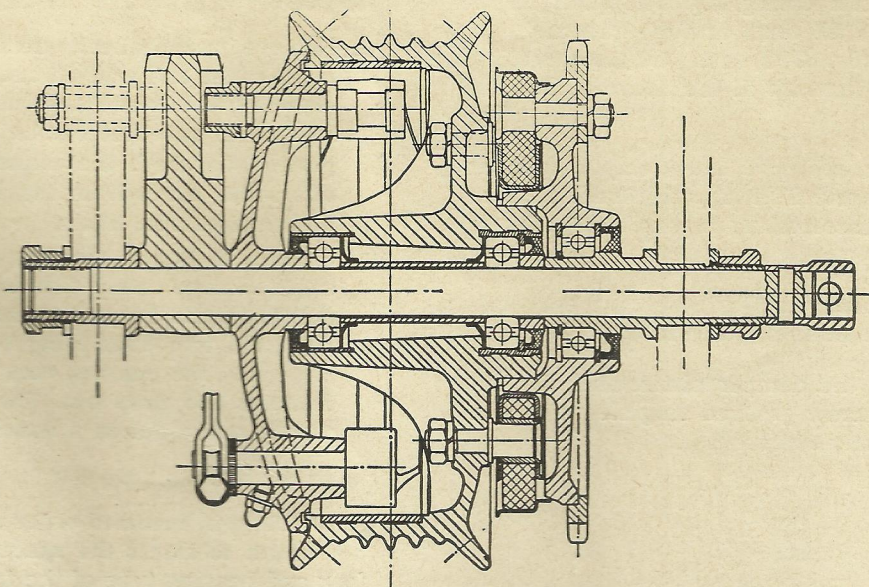

Fig. 25: Rear Wheel Hub
1. Right-hand side: Insert guide washer (see fig. 25). Grease and press in right-hand ball bearing, fit snapping. Press intermediate ring into seal ring and press seal ring into hub. The sealing edges of the seal ring must face inwards.